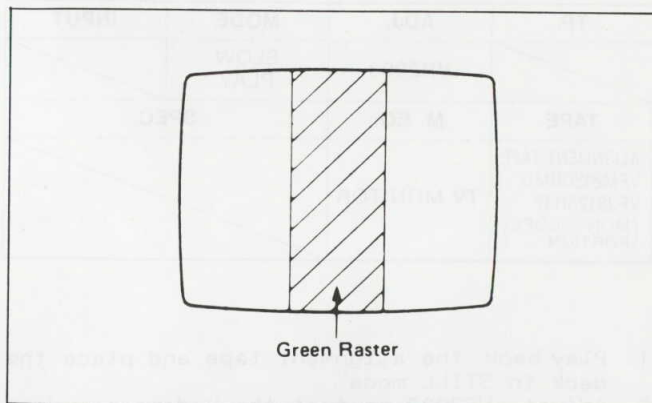
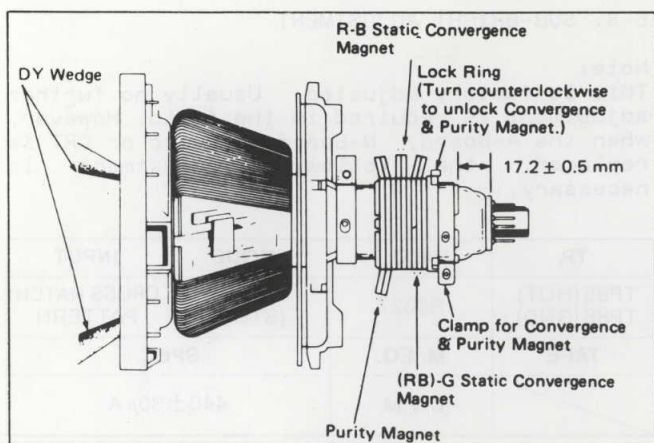

Figure E9
Figure E10
7. Loosen purity magnet lock ring as shown Figure E10 and adjust the purity magnet to set the vertical green raster precisely at the center of the screen as shown in Figure E9.
3. Loosen the convergence magnet lock ring and converge the red and blue dots at the center of the screen, by rotating the R-B Static Convergence Magnet as shown in Figure E10.
4. Align the converged red/blue dots with the green dots at the center of the screen by rotating the (RB)-G Static Convergence Magnet as shown in Figure E10.